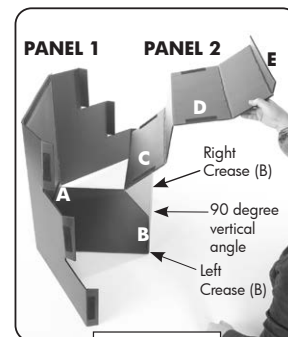

Figure 6
- 6** Now bring the far right end (edge E) of **PANEL 2** inward towards the left bending the left crease of section B until it forms a 90 degree *vertical angle*. **See Figure 6**.